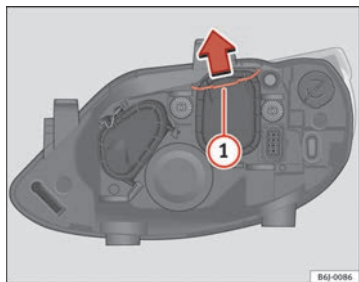

Fig. 161 Dipped beam headlights
- Move the loop ⇒ fig. 161 ① in the direction of the arrow and remove the cover.